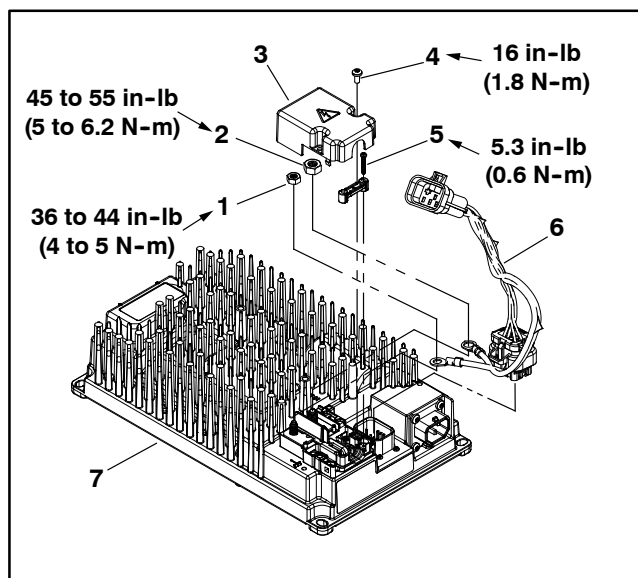

Figure 70
A. Unplug the power supply cord (item 3) from the battery charger (item 1).
B. Disconnect the charger interface wire harness (item 5) from the machine wire harness (item 8).
C. If necessary, remove two (2) nuts (item 9) and bolts (item 12) that secures the AC input cord (item 10) to the charger outlet bracket (item 13). Separate AC input cord from the charger outlet bracket.
7. Remove four (4) flange head bolts (item 2) that secure the battery charger to the charger bracket. Carefully remove charger with attached charger interface wire harness from vehicle.
9. If necessary, remove the charger interface wire harness from the battery charger using Figure 70 as a reference.
1. If removed, install the charger interface wire harness onto the battery charger using Figure 70 as a reference.
2. Position battery charger to charger bracket. Secure charger to bracket with four (4) flange head screws. Torque tighten the screws to **90 to 110 in-lb (10 to 12.4 N-m)**
A. If removed, install the charger AC input cord (item 10) to the charger outlet bracket (item 13) with two (2) bolts (item 12) and nuts (item 9).
B. Connect the charger interface wire harness (item 5) to the machine wire harness (item 8).
C. Plug-in the power supply cord (item 3) to the battery charger (item 1).